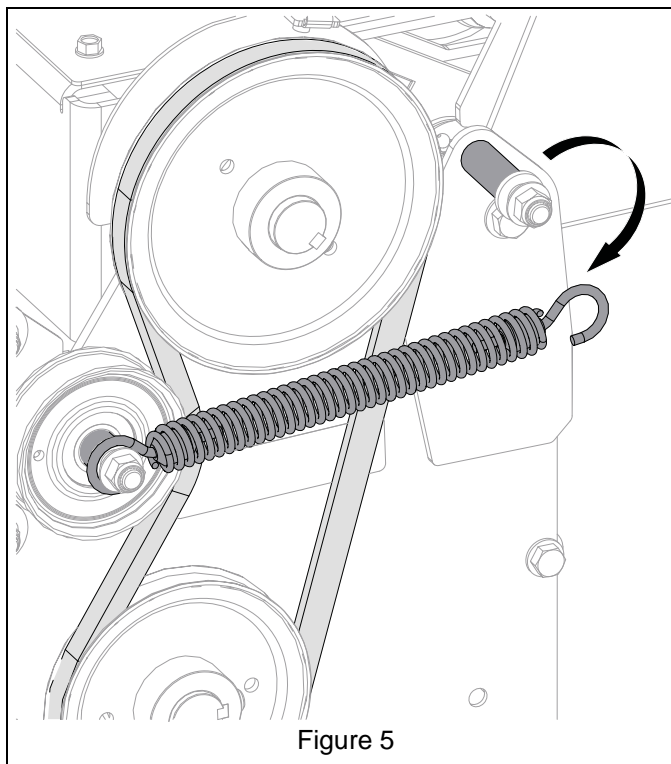

Figure 5
6. Disconnect idler spring from anchor. See Figure 5.